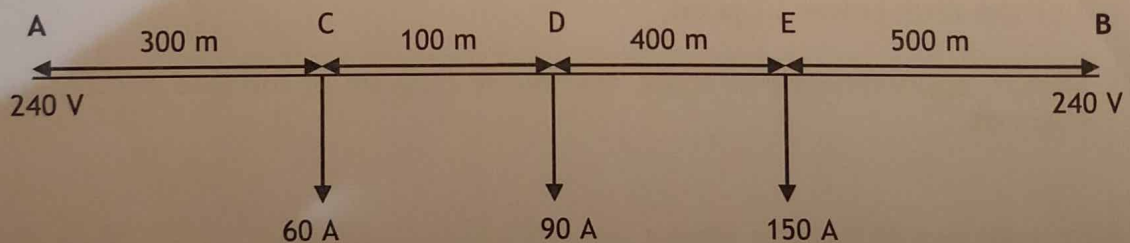

Fig Q1
1. Fig. Q1 represents a ring main system of total length 1300 m and resistance (go + return) of $0.002 \Omega/\text{m}$.